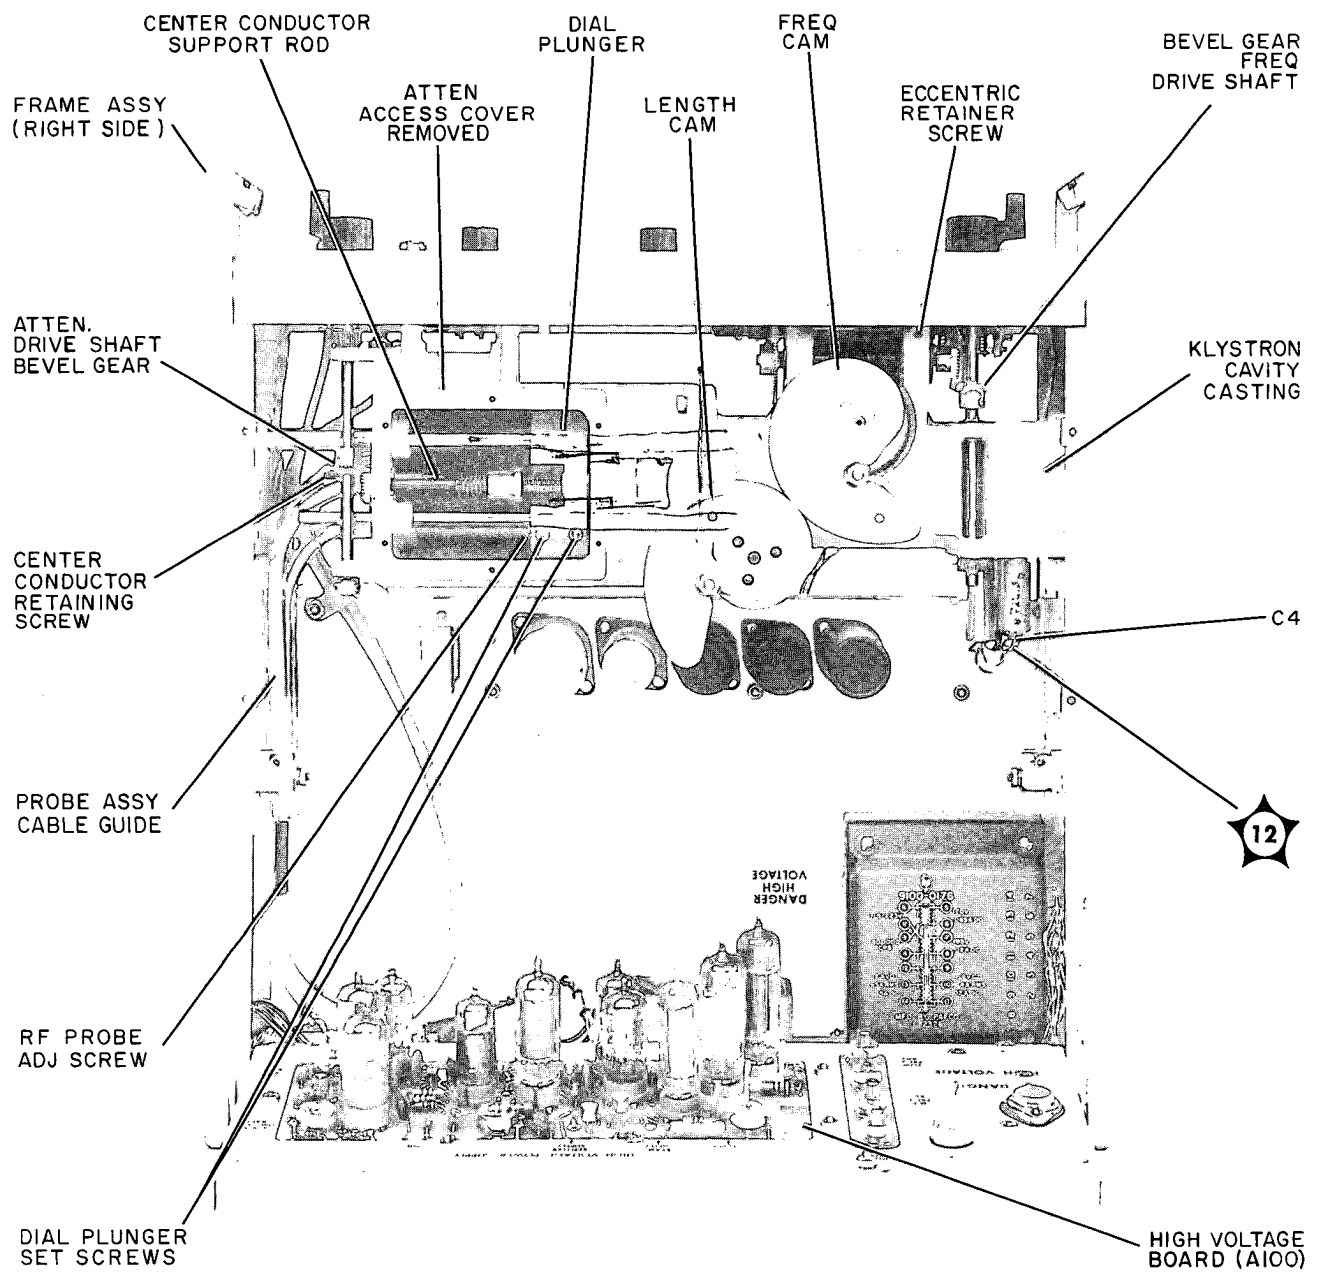

Figure 5-8. Model 8614B Top View, Cover Removed
- b. Remove top cover and attenuator access cover (see Figure 5-8).
- e. Remove retaining screw from defective probe in klystron cavity casting and remove from casting (see Figure 5-8).
- c. Turn FREQUENCY (MC) to approximately the middle of the frequency band.
- d. Orient Length Cam to Frequency Cam as shown in Figure 5-8.
a. Connect a clip-on milliammeter to wire on center feed-through capacitor, C4 (wht/blu/vio wire, see Figure 5-8).
b. Connect crystal detector/oscilloscope combination to VARIABLE RF OUTPUT and set FREQUENCY (MC) to 1650 MHz (3050 MHz for 8616B).
f. If clamping action referred to in step c occurs before VARIABLE RF OUTPUT begins to decrease and before beam current exceeds 28 mA, go to next procedure. If clamping action does not occur before VARIABLE RF OUTPUT begins to decrease or before beam current exceeds 28 mA, readjust R420 as in step d above. Using a dc voltmeter with a floating input, measure voltage difference between klystron cathode and control grid (see Figure 5-8). Replace CR404 with a zener diode whose breakdown voltage is as close to, but slightly less than, the measured voltage minus 0.6 volts (see Figure 5-4).
c. Refer to graph, Figure 5-10. The horizontal axis represents the measured frequency change from step b, the vertical axis indicates the dial corrective setting. For example, if the difference between dial settings (step b) is 1354 MHz, the corrective setting for the dial as found on the graph is 990 MHz. To make correction, set frequency dial to 1000 MHz, loosen the two setscrews that clamp dial plunger to rack, hold dial plunger stationary, and set dial to 990 MHz. Tighten two setscrews (see Figure 5-8).
i. If frequency dial reading errors are greater than  $\pm 5$  MHz ( $\pm 10$  MHz for 8616B), shifting the dial may bring all errors within specification. If shifting dial will not sufficiently correct errors, it may be necessary to shift position of center conductor support rod (see Figure 5-8). The center conductor is notched at end closest to right side of instrument and may be loosened and then adjusted "in" or "out" of klystron cavity. Notch or scratch center conductor rod so that original position may always be known. If overall frequency error was positive, adjust center conductor toward right side of instrument. If overall error was negative, adjust center conductor toward left side of instrument. When adjusting center conductor position, never change by more than about 20 thousandths of an inch at a time.